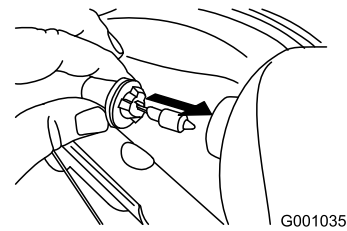

Figure 63
4. Insert a new bulb into the back of the headlight (Figure 63).